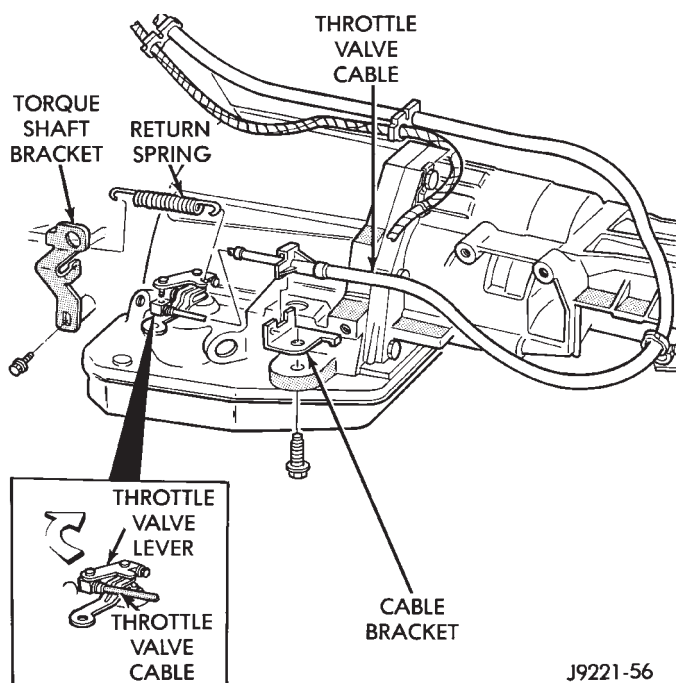

Fig. 5 Throttle Cable Attachment At Transmission
- (6) Raise vehicle for access to transmission throttle valve lever (Fig. 5).
- (7) Rotate throttle valve lever toward front of vehicle until ratcheting sound (from cable) stops.